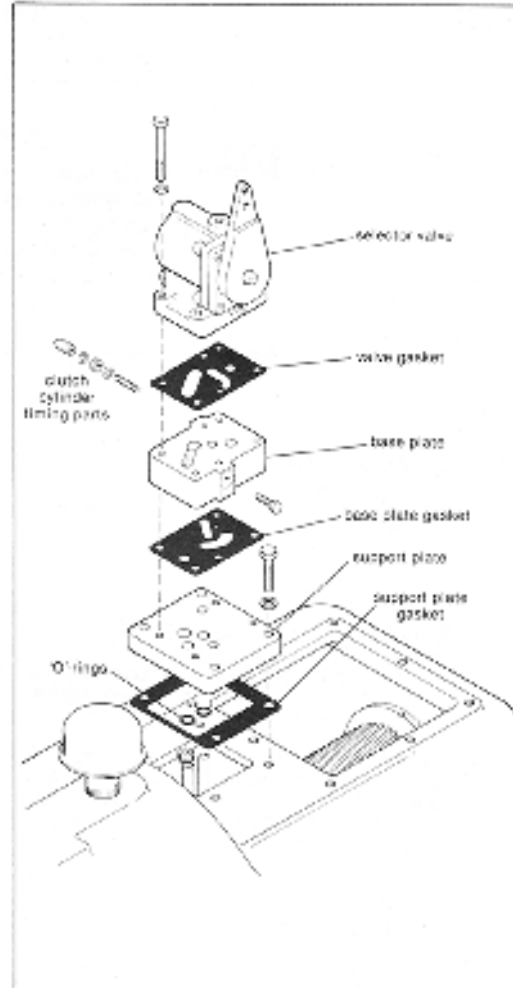

Fig. 19. Exploded View: Selector Valve and Related Parts.
8. Check for correct assembly by moving lever back and forth. Selector valve is now ready to be installed on main housing. See fig. 19.